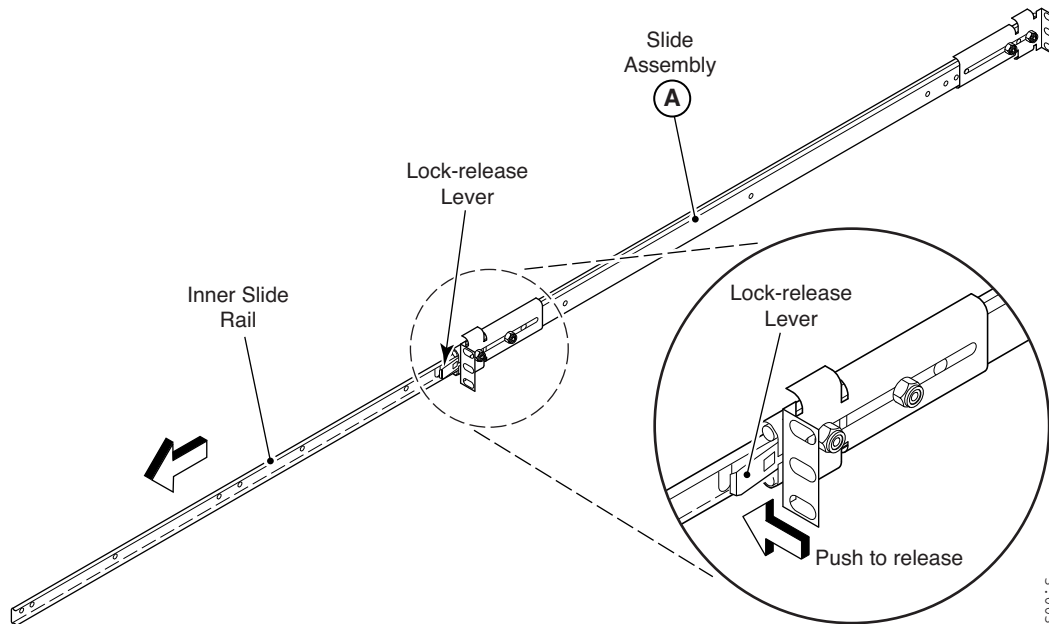

FIGURE 2 Pulling the slide rails apart
2. Pull the inner slide rail out until the lock engages (Figure 2).